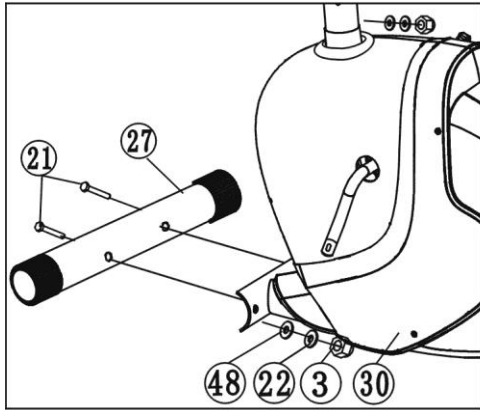

Figure 1
Attach the Front stabilizer (27) to the Main frame (30) with two Bolts (21), Flat washers (48) Spring washers (22)and Cap nuts (3). (See figure 1)